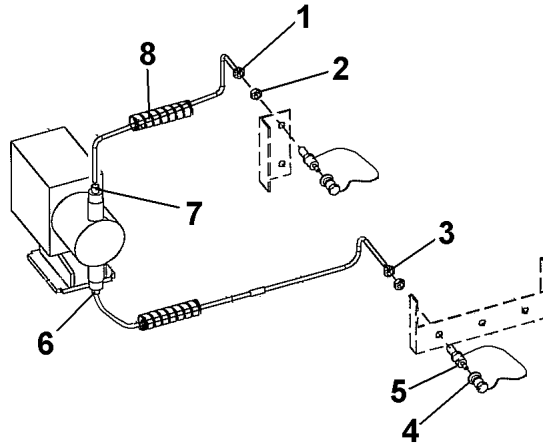

Figure 8. Antiscalant Tubing.
1. Disconnect discharge tubing at nuts (1) and (7). See Figure 8.
2. Remove nut (2) from tubing.
3. Disconnect suction tubing at nuts (3) and (6).
Refer to Figure 8 for this procedure section.